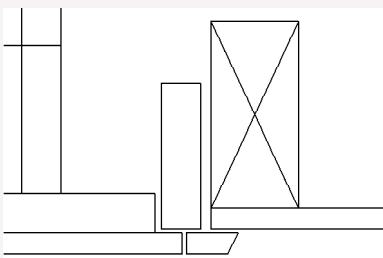

fig. 5
**Note;** The stairs are designed to be installed with the outside frame flush with the underside of the ceiling lining. An architrave will cover the gap between the stair frame and the ceiling lining while also hiding the edge of the lid from view (figure 5).